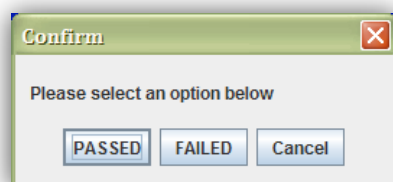

Figure 11
- 6) After testing is completed, a pop-up window is displayed and asks if the device passed or failed the test. Select either to continue (Figure 11).